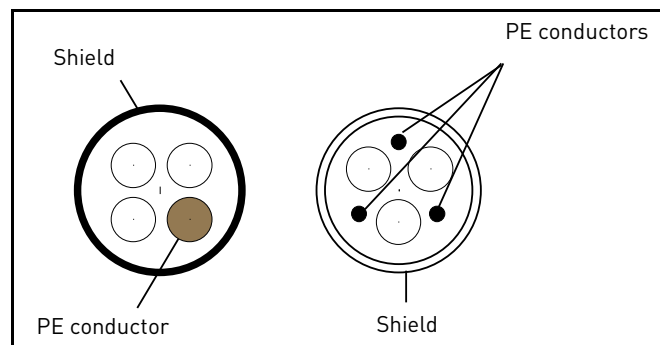

Figure 18. Example with three-phase cable.
- 2 = Symmetrical power cable equipped with concentric protection wire and intended for the specific mains voltage. (MCMK or similar recommended). See Figure 18.
- 3 = Symmetrical power cable equipped with compact low-impedance shield and intended for the specific mains voltage. [MCCMK, EMCMK or similar recommended; Recommended cable transfer impedance (1...30MHz) max. 100mohm/m]. See Figure 18.